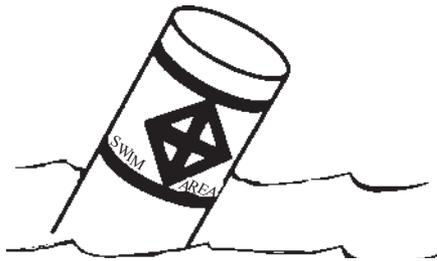

FIGURE 2-10 SWIM AREA BUOY
8. Swim only in areas designated as safe for swimming. These are usually marked with a swim area buoy (Figure 2-10). Do not swim alone or at night.